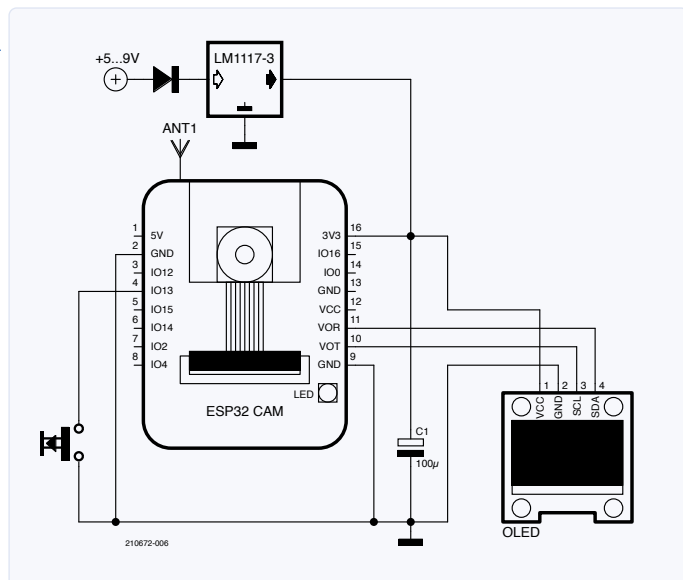

Figure 1: Add an OLED display to the ESP32-Cam for some extra comfort.
**Figure 1** shows how to connect the OLED display to the ESP32-Cam board. Very few GPIO pins are left for use after the SD card and the camera are connected. The only free pins available for our use are IO1, IO3, IO4, IO12, IO13 (see inset 'Elektor Lab Notes'). IO1 ('UoT') and IO3 ('UoR') are also used as serial port for uploading the program to the ESP32 in flash programming mode. Therefore, these pins are to be completely free from any connections while uploading programs.